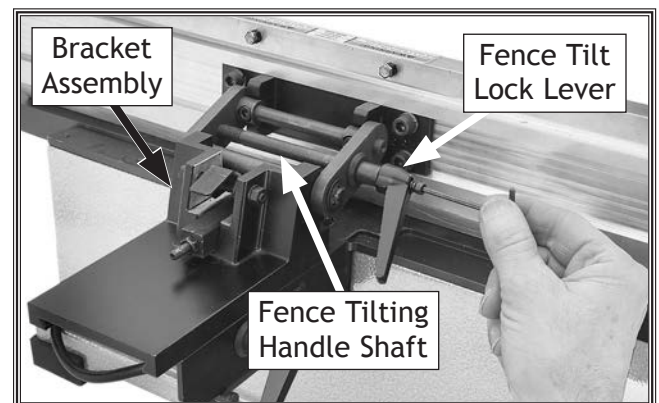

Figure 15. Installing the fence tilting handle.
- Install the fence tilting handle by threading the handle shaft into the bracket assembly, as shown in Figure 15.